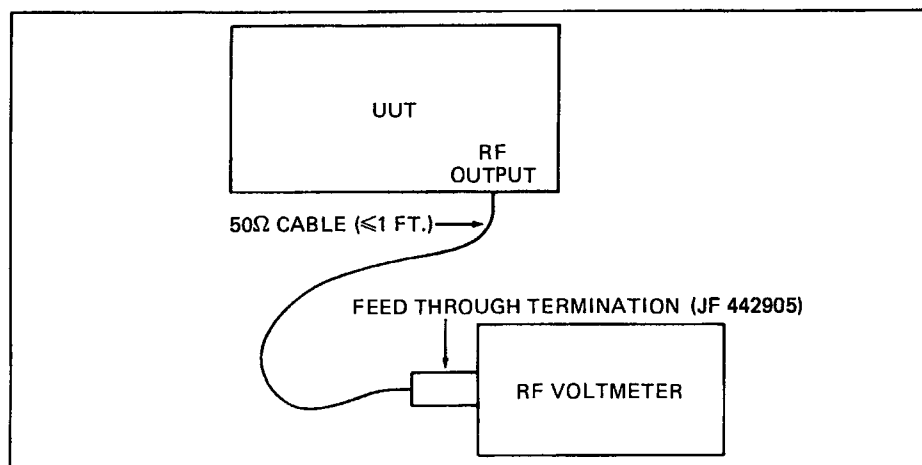

Figure 5-7. RF Output Level Check - Voltmeter
- b. Connect the equipment as shown in Figure 5-7.